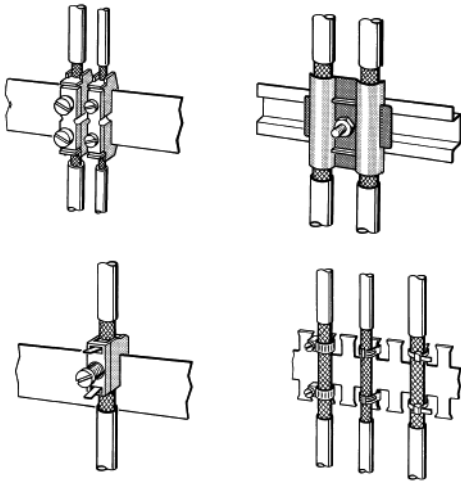

Fig. 10: Fixing sheathed cables with cable clamps and hose clip (schematic presentation)
- ▶ The clamps must extensively enclose the sheath and have a good contact (see Figure 10).